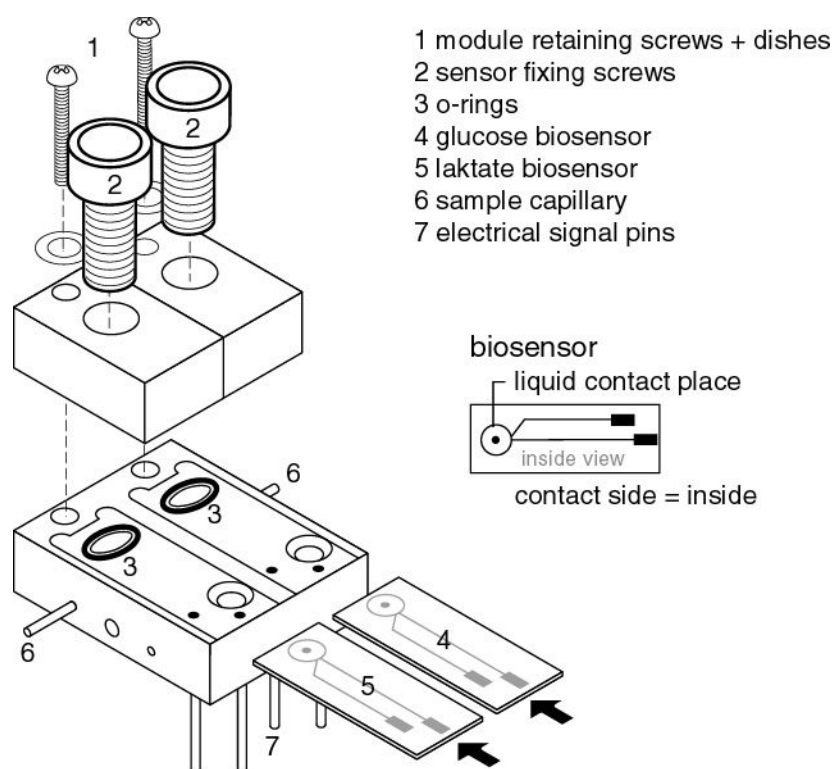

Figure 22 Biosensor measuring module
- Immediately put the Biosensor flushing into its right position. The upper position is for the Glucose sensor, the lower position for the Lactate sensor, see fig. 22.
- Pay attention to the figures in chapter 6.2.13 and figure 22.
- Loosen the plastic fixing screws (2) and remove Biosensors.
- Unscrew the module retaining screws (1) with dishes.
- Replace O-Rings (No.: 50 2 10 25) in their positions with a suitable soft tool (pos.3)